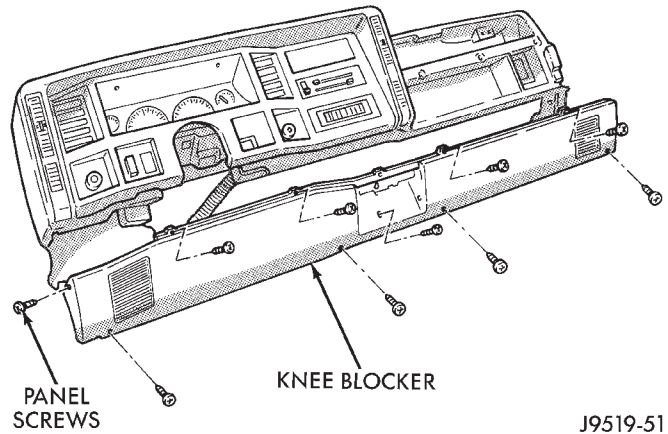

Fig. 11 Knee Blocker
(6) Remove the knee blocker (Fig. 11).
(7) Remove relay box.
(8) Remove tilt lever (if equipped) from column.